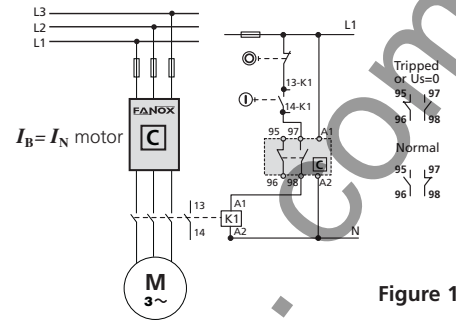

Figure 1
- For motor rated currents between 3 and 45A, the setting I_B must be equal to the rated current of the motor I_N (Figure 1).